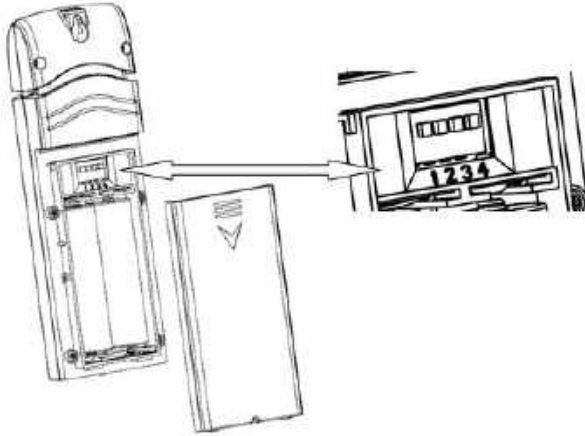

Figure 14 Battery installation for Multi-channel sensor
1. Remove the battery door on the back of the transmitter(s) by sliding down the battery door, as shown in Figure 14 .